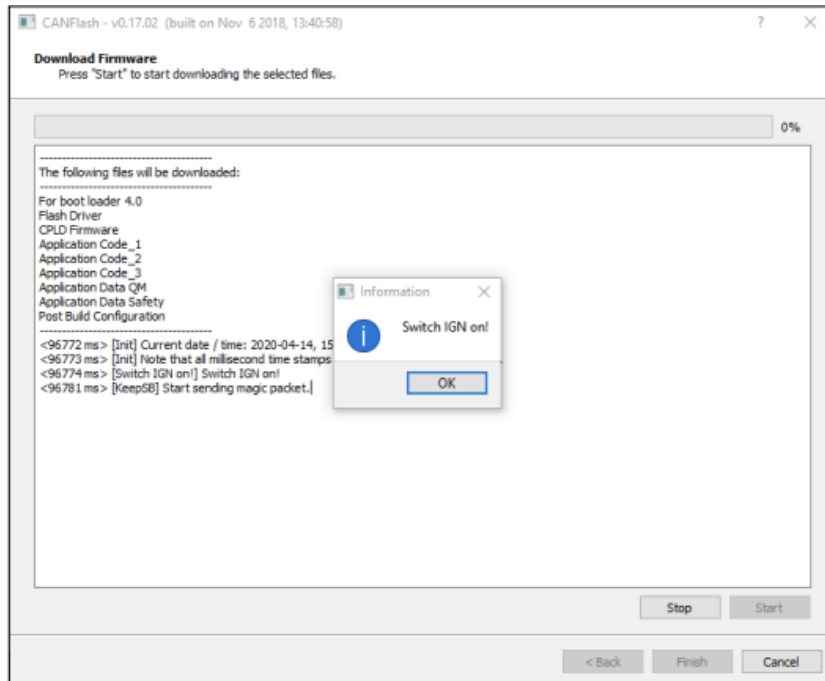

Figure 25: Flip switch on 1144289 when CANFlash shows Switch IGN on!
70. Flip the ignition switch on 1144289 ON when CANFlash says Switch IGN on! (see figure 25). In part 1 you do not need to turn the Master Run switch ON.